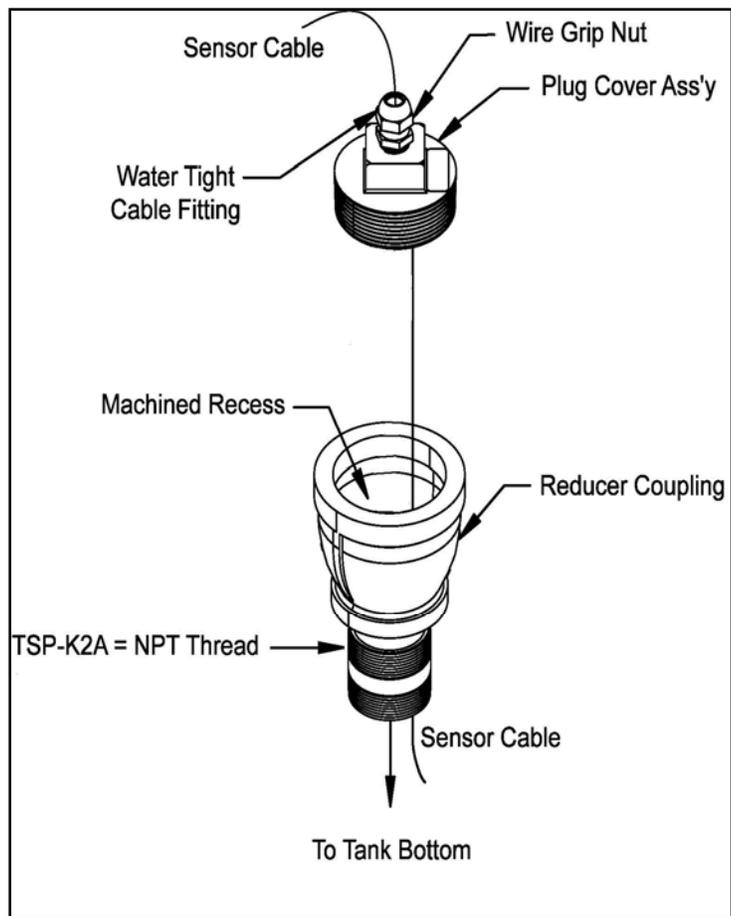

Figure 5
- Set the liquid sensor to the height shown in Figure 5.
At the point where the cable exits the top of the wire grip, place a permanent indicating mark on the sheathing of the cable (e.g. using a waterproof marker such as a Sharpie™) which indicates the sensor is placed two (2) inches above the bottom of the Liquid Condensate Trap (see Figure 5).